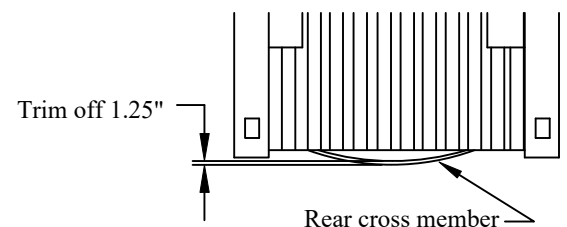

Figure 4: Rear cross member.
6. **Trim** 1.25" from the pickup's rear cross member (Figure 4).